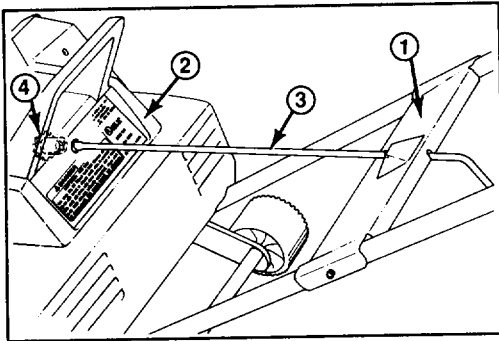

Figure 2
3. Place the mounting plate over the tubing (Fig. 2). Align mounting plate holes with upper and lower tubing holes. Insert end of chute crank through hole in shroud. Rotate crank
until flattened end aligns with large slot in gear. Firmly push chute crank into gear until it snaps into place (Fig. 2).